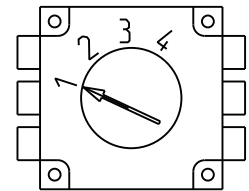

Figure 1
1. Before installing, turn regulator over and select appropriate switch position (See NOTICE above and Table 1 and Figure 1).